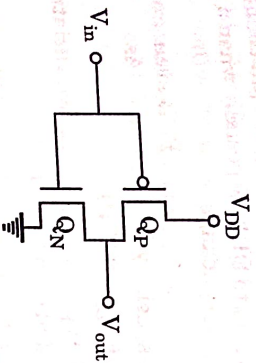

Fig. 1.13.1 CMOS inverter circuit.
- Fig. 1.13.1 shows the CMOS inverter. In the CMOS inverter, the PMOS and NMOS devices Q_P and Q_N are driven simultaneously by an input V_{in} .